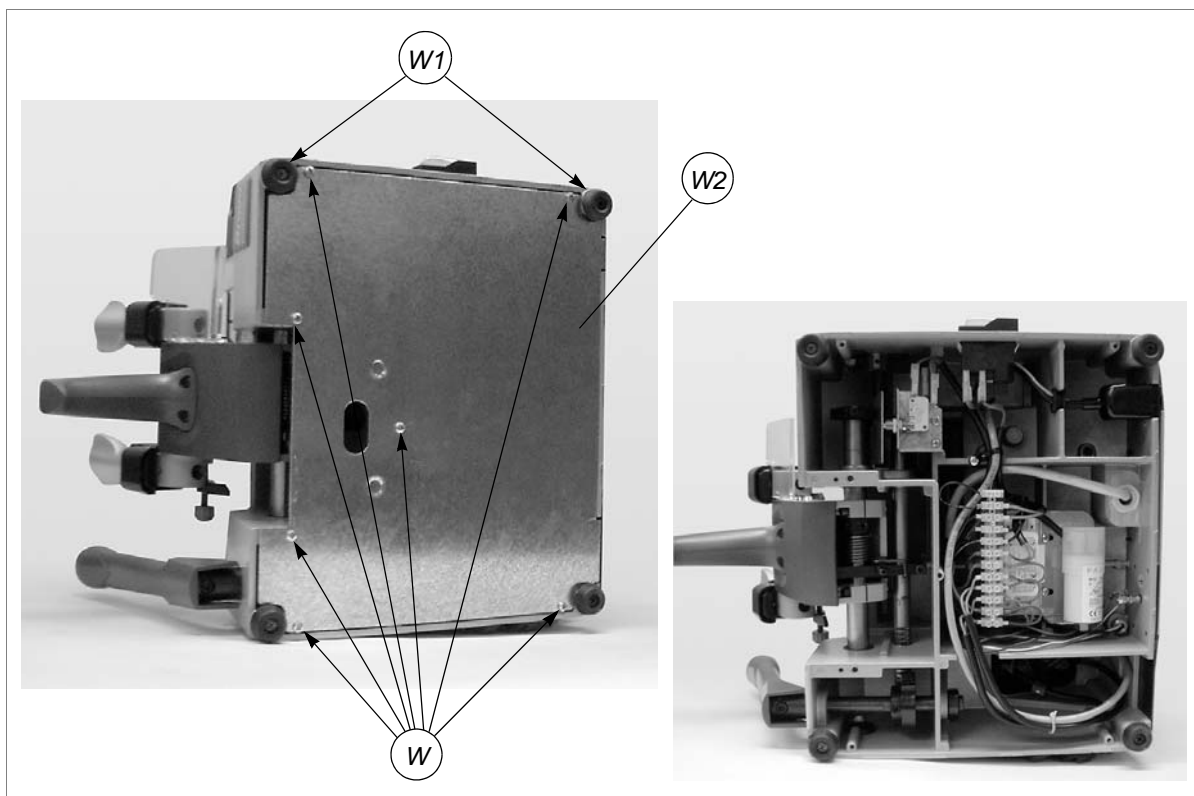
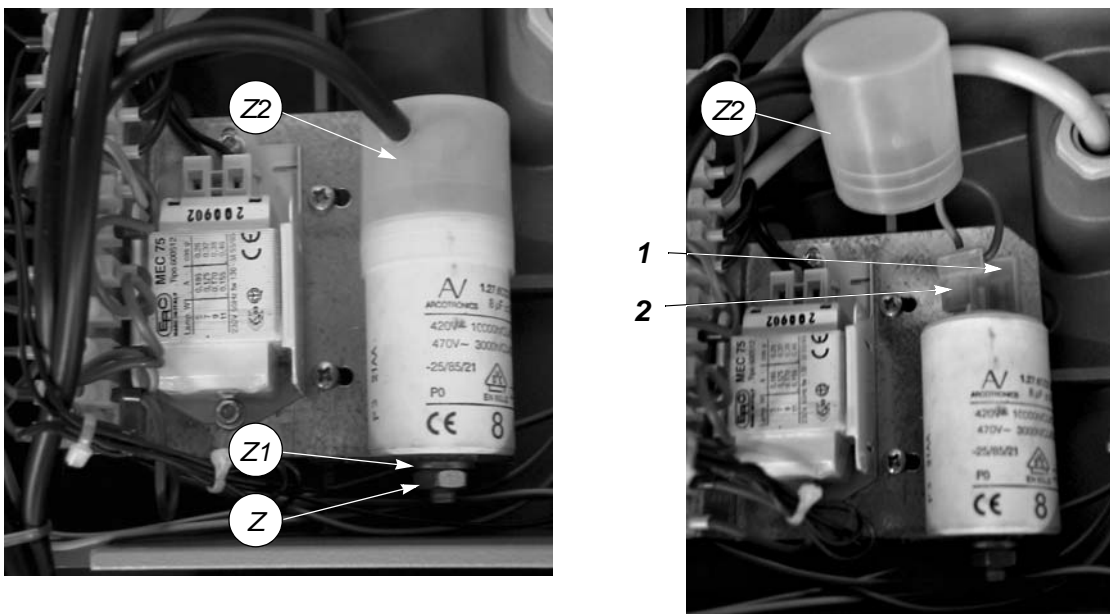
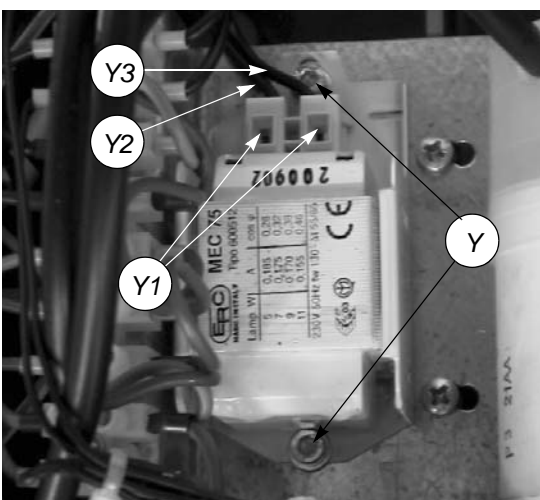

Fig. 30
Fig. 32
Fig. 33
- 4) Loosen the 7 screws (W) and 2 feet (W1) and remove the bottom safety plate (W2) (fig.30).
- 1) Loosen the nut (Z) and remove the washer (Z1) and condenser (fig.32).
- 2) Fit the new condenser and fix with the washer (Z1) and nut (Z).
- 6) Replace the bottom safety plate, fix with the 7 screws (W) and 2 feet (fig. 30, page 22). Fit the swarf tray.
- 1) Loosen the 2 screws (Y) and remove the reactor (fig.33).
- 4) Place the new reactor in its seat and secure with the 2 screws (Y).
- 5) Replace the bottom safety plate and fix with the 7 screws (W) and 2 feet (W1) (fig. 30, page 22). Fit the swarf tray.
- 9) Replace the bottom safety plate and secure with the 7 screws (W) and 2 feet (W1) (fig. 30, page 22). Fit the swarf tray.